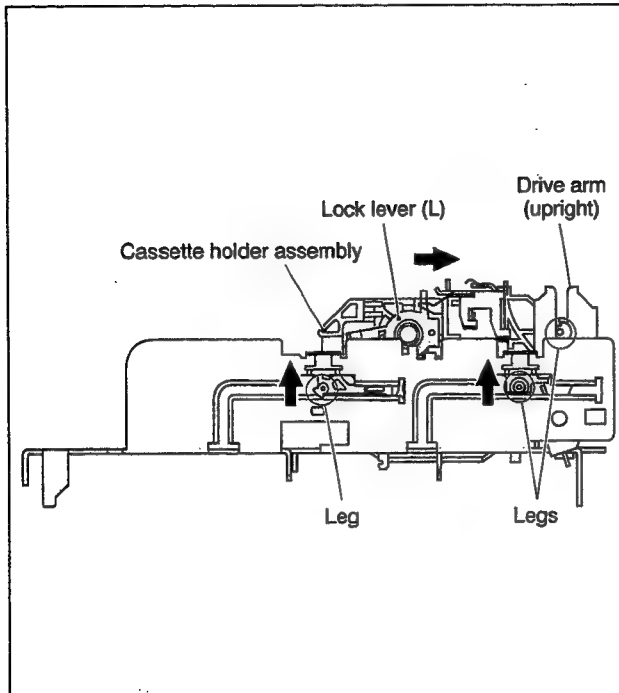

Fig. 2-2-4
(4) While swinging the lock levers (R) and (L) of the cassette holder assembly toward the front, slide the cassette holder assembly until its legs come to where the guide rail and the rail cap have been removed (so that the drive arm is upright). (See Fig.2-2-4)